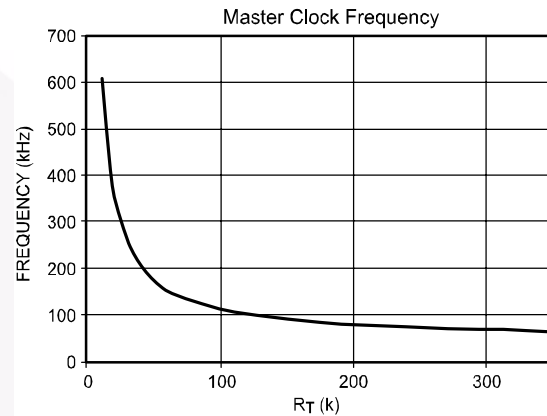

Figure 18. R_T vs. Frequency
The clock frequency on the oscillator is set using an external resistor, connected between R(T) pin and ground. The frequency follows the graph, as shown in Figure 18. The minimum clock frequency is 50kHz , which is when R(T) pin is left open. Select the value of R(T) as shown in the equation below. This equation is valid for all $f_{OSC} > 50\text{kHz}$: